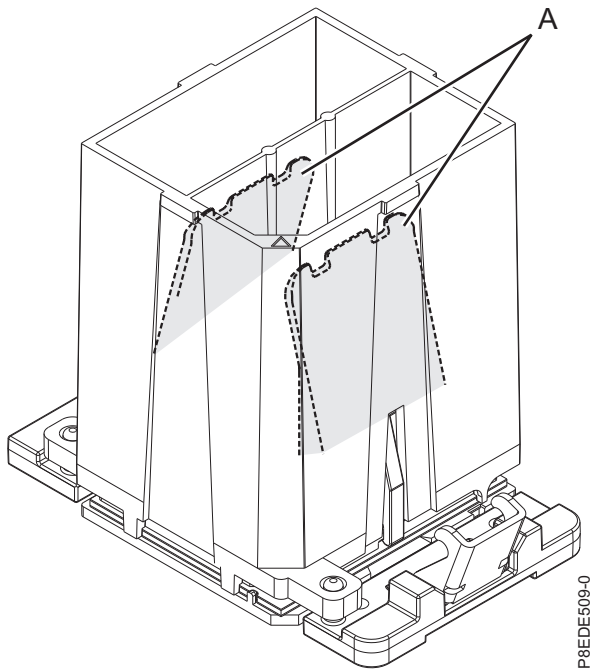

Figure 81. Removing the system processor module tool
- b. After the tool and system processor module holes and guide pins are properly aligned, squeeze and hold the two blue release tabs **(A)** together until a firm stop is reached, as shown in Figure 81 on page 82. Then, lift the tool off the system processor module.